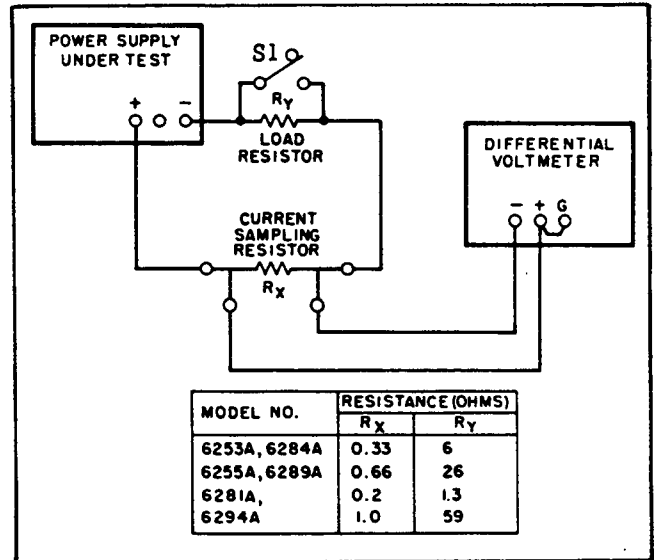

Figure 5-4. Output Current Test Setup
- Connect test setup as shown in Figure 5-4 leaving switch S1 open.